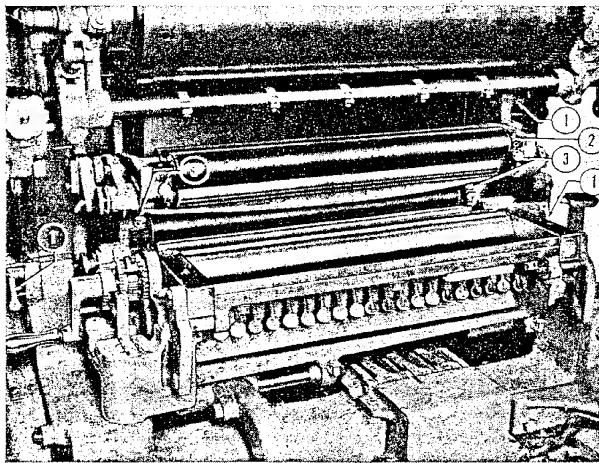

Figure 31—Form and Distributor Rollers
(3) HOW TO OPEN OR REMOVE FORM AND DISTRIBUTOR' ROLLERS.—The composition form and distributing rollers are mounted in roller boxes which attach to the form and distributing roller frames. (See figure 31.) The roller frames are so designed that the composition rollers may be lowered out of operating position. Roller lock levers, (1) figure 31, one on each end of roller frames, lock the frames in operating position.
The rollers are locked in their boxes by means of roller box keys, (2) figure 31, in the right side roller box. A roller may be removed from its box by sliding the key from the box, permitting the removal of the roller. In addition, the roller frames can be easily removed from the press by swinging the roller lock levers (1) figure 31, to their up position, permitting the roller frames to be lifted from the studs on which they mount.
(4) HOW TO ADJUST FORM AND DISTRIBUTOR ROLLERS.—Roller adjusting screws, (3) figure 31, provide for adjusting the form and distributor composition rollers for correct contact with ink table and their vibrator rollers. When the rollers are adjusted for correct contact with ink table, they will also be in correct contact with their vibrator rollers. To check for correct composition roller setting, proceed as follows:
(a) With form and distributor rollers installed on their frames, lock frames in operating position, being sure that lock levers, (1) figure 31, are in down position. (Figure 31 shows form rollers in open position.) If new composition rollers are installed, reset to proper contact by means of adjusting screws.
sition, and then examine roller impression on ink table. The impression should be approximately  $3/16"$  wide the full length of roller. If impression is not correct, turn roller adjusting screw, (3) figure 31, as required.